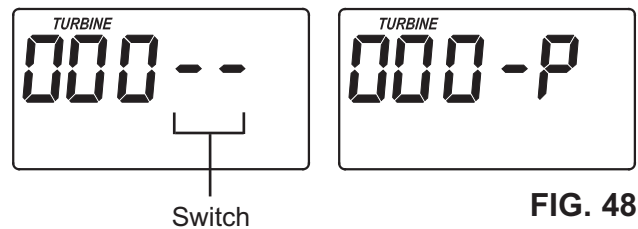

FIG. 48
1. Press and hold for 3 seconds the SELECT button, until one of the screens shown in Figure 48 is displayed.